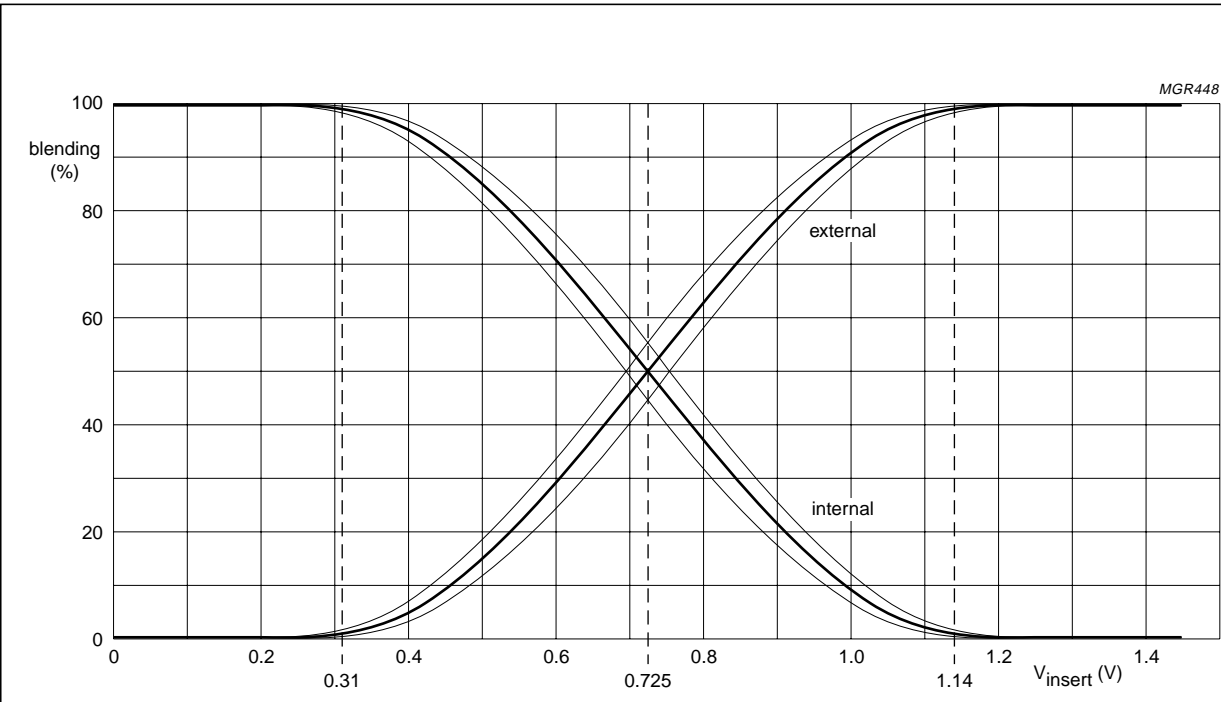

Fig.4 Blending characteristic (typical curve and minimum/maximum limits).
- b) Blending (fading) function between the OSD signal and the internal RGB signals. The blending control curve is given in Fig.4. The blender input is optimized for the blender output of the SAA5800 (ArtistIC).